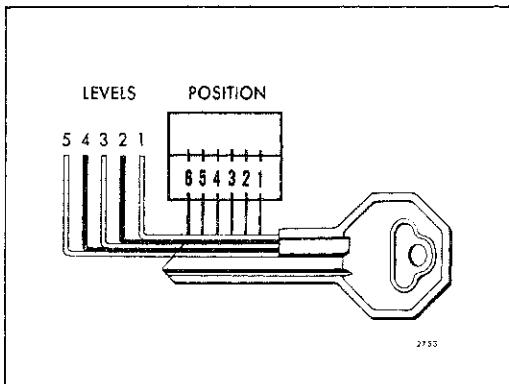

Fig. 1-5—Key Code Diagram
Key code numbers are stamped on the "knockout" lug in the key head and on the lock cylinder housing (to facilitate replacement or duplication of key). After the code number has been recorded by the owner, the plugs should be knocked out of the key head. From these numbers, the lock combination can be determined by use of a code list (available to owners of key cutting equipment from equipment suppliers). If key code numbers are not available from records or from the "knock-out" plug, lock combination (tumbler numbers and position arrangement) can be determined by laying the key on the diagram in Figure 1-5.
After the special code has been determined, either from the code list or the Key Code Diagram (Fig. 1-5) cut a blank key to the proper level for each of the six tumbler positions, and check the key in the lock cylinder. The new key should agree with the combination opposite the code number in the code list.
- Lay the key on the Key Code Diagram (Fig. 1-5) with the key outlined by the diagram as accurately as possible.